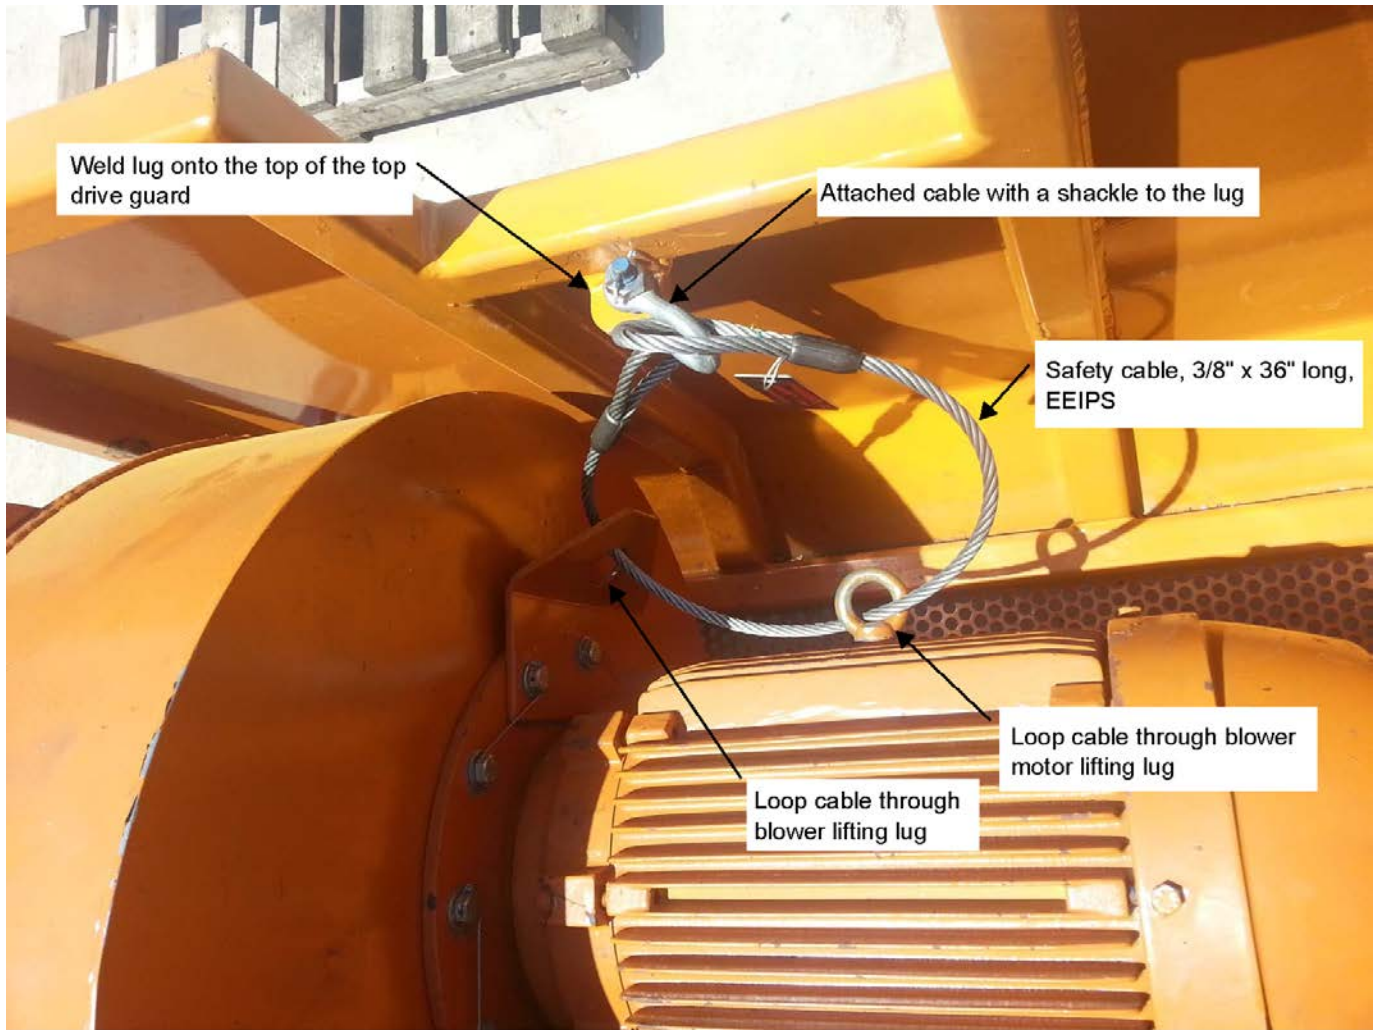

Figure 3 - Safety Cable attached to Blower Motor
3. If it is determined that 3/8" bolts were used to mount the blower motor, the blower motor assembly must be secured with a safety cable until it is practicable to replace with 1/2" bolts (see figure 3)